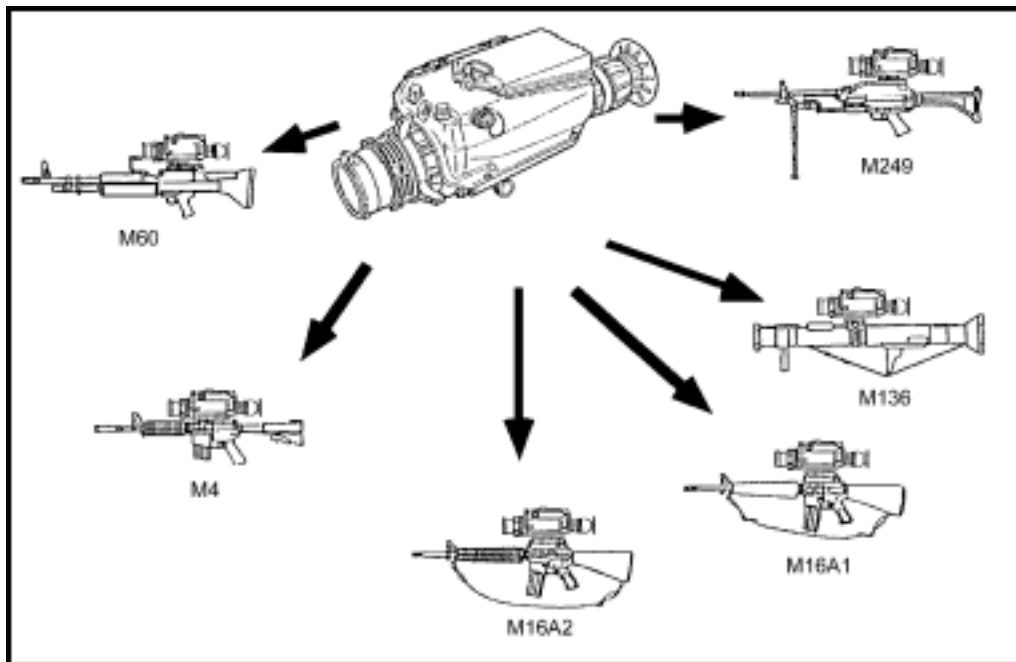
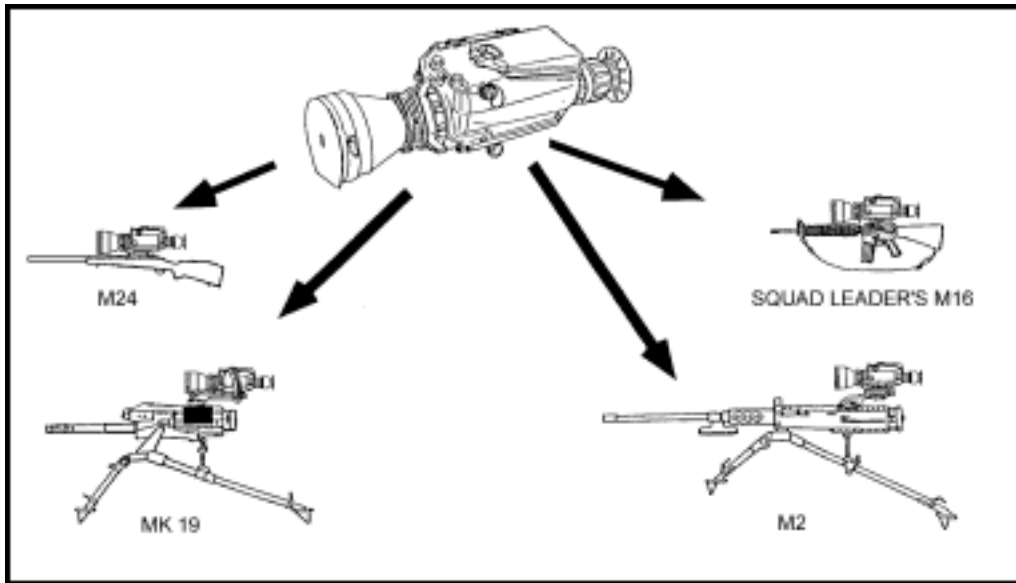

Figure F-16. MWTS.
Figure F-17. HTWS.
(2) The only difference between the MWTS and the HWTS are the telescopes, which are different magnifications and hold different reticles. The basic sensor on the two models is the same. The MWTS fits the M4 carbine, the M4 modular weapon system, the M16A2, the M16A4 (not shown), the M249, the M60 machine gun, the M240B machine gun (not shown), and the M136 grenade launcher (Figure F-16). The HWTS fits the squad leader's M16, the M24 sniper rifle, the M2, caliber .50 machine gun, and the MK-19 grenade launcher (Figure F-17).